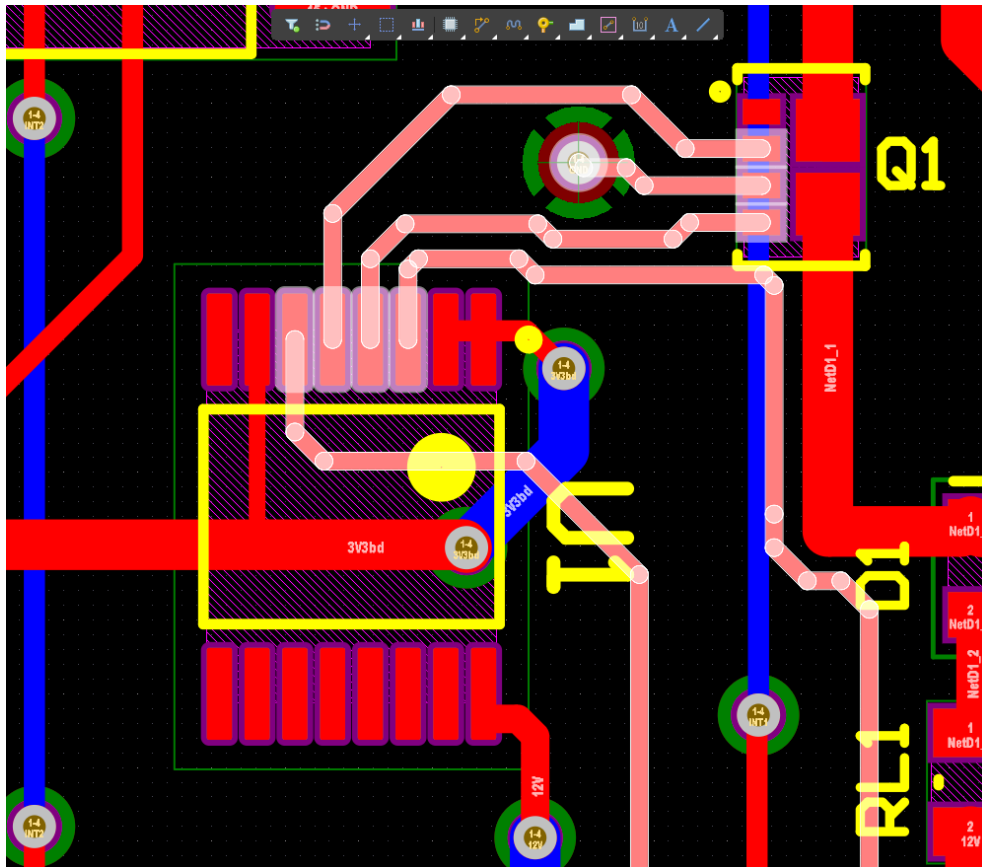

Figure 3. Selecting multiple traces with the Shift key and "Connected Copper" command
- While holding the **Shift** key, select the multiple traces on the 4 pads similar to Figure 3 below. You could also select multiple traces and hit the **TAB** key to select the connected copper.